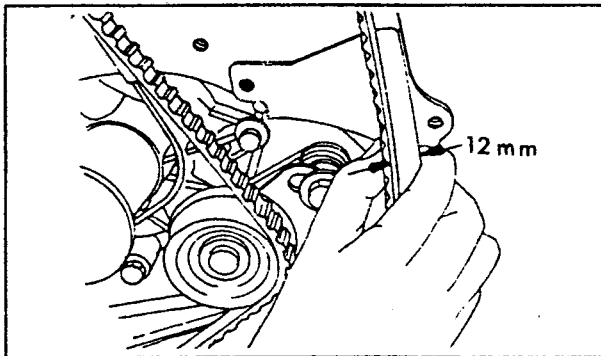

Fig. 1.64. — Checking the timing belt tension.
- The timing belt tension now be checked. To do this, grip the belt on the side shown in Fig. 1.64 between forefinger and thumb and press the belt towards the outside. The gap shown between the arrows must be 30 mm (1.18 in.), when measured between the outside of the timing belt and the sealing line of the cover underneath the timing belt.
- The tension of the belt can now be checked as shown in Fig. 1.64. The nominal value of 30 mm (1.18 in.) must be obtained between the arrows.